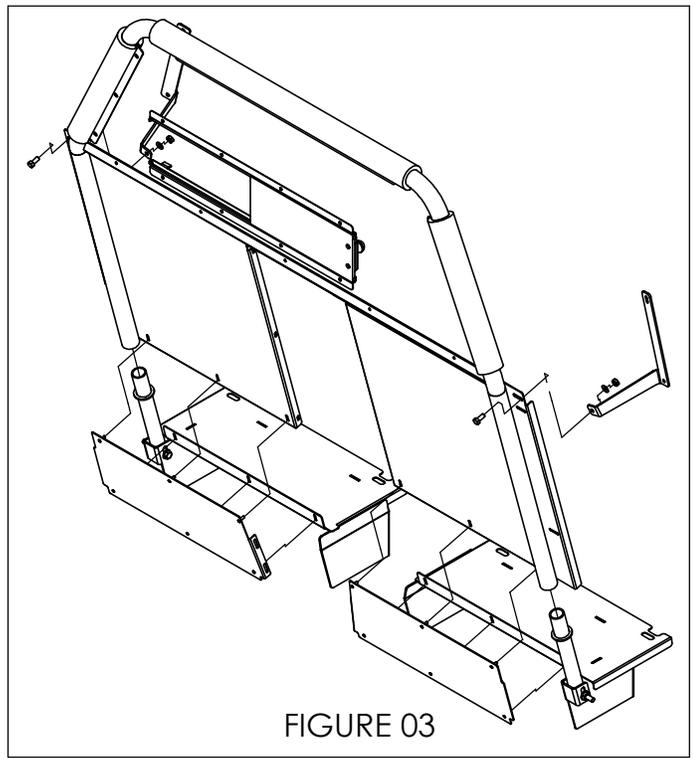

FIGURE 03
6. INSERT THE MAIN WELDMENT INTO THE VEHICLE WITH THE SLIDING WINDOW KNOB FACING TOWARD THE FRONT SEATS. ALIGN THE MAIN WELDMENT WITH THE LOWER TUBE WELDMENTS AND LOWER IT ONTO THEM (FIGURE 03).
7. TILT THE PARTITION FORWARD AND LOOSELY ATTACH TO THE B-PILLAR BRACKETS USING 5/16-18 HEX BOLTS, WASHERS, AND NUTS (FIGURE 03).
8. LOOSELY ATTACH FILLER PANELS TO THEIR RESPECTIVE LOCATIONS (FIGURE 03).